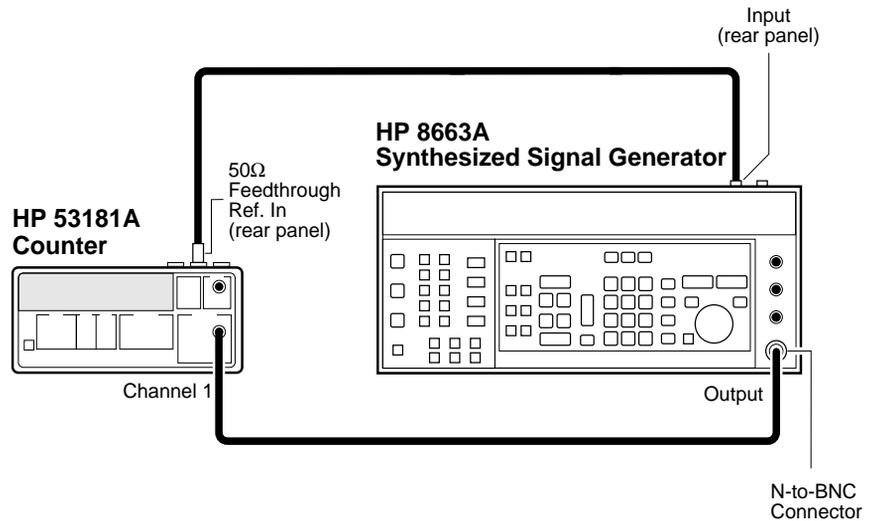

Figure 1-12. Channels 1 Frequency Sensitivity Test Setup
- 1 **Connect the equipment as shown in Figure 1-12 with the signal generator connected to Channel 1 of the Counter.**